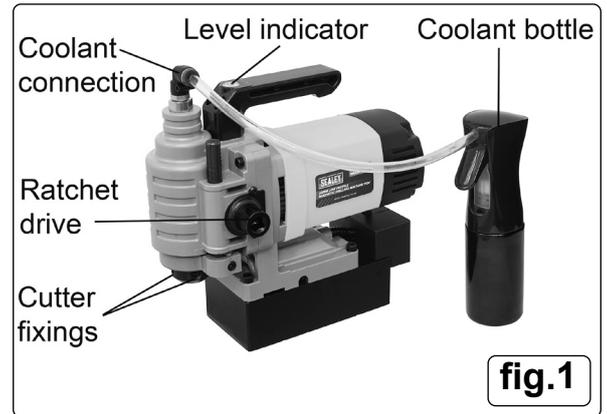

fig.1
### 4.1. ATTACH COOLANT BOTTLE (fig.1)
4.2.2. Insert cutter and tighten the two cutter fixings (fig.1).
**NOTE:** When using drill vertically use the level indicator (fig.1).
**NOTE:** Lubricate cutter by frequently squeezing trigger on coolant bottle (fig.1).
5.6.2. Use ratchet drive (fig.1) to move the cutting bit towards the workpiece.